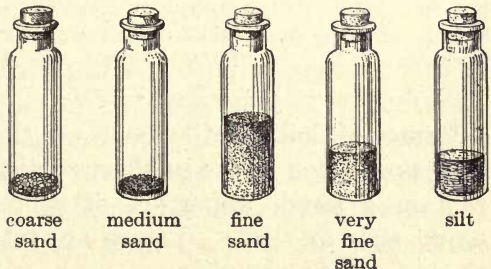

FIG. 248.
**Experiment 73.** — Shake a quantity of soil with water in a bottle (Figure 248), until all the particles of the soil are broken